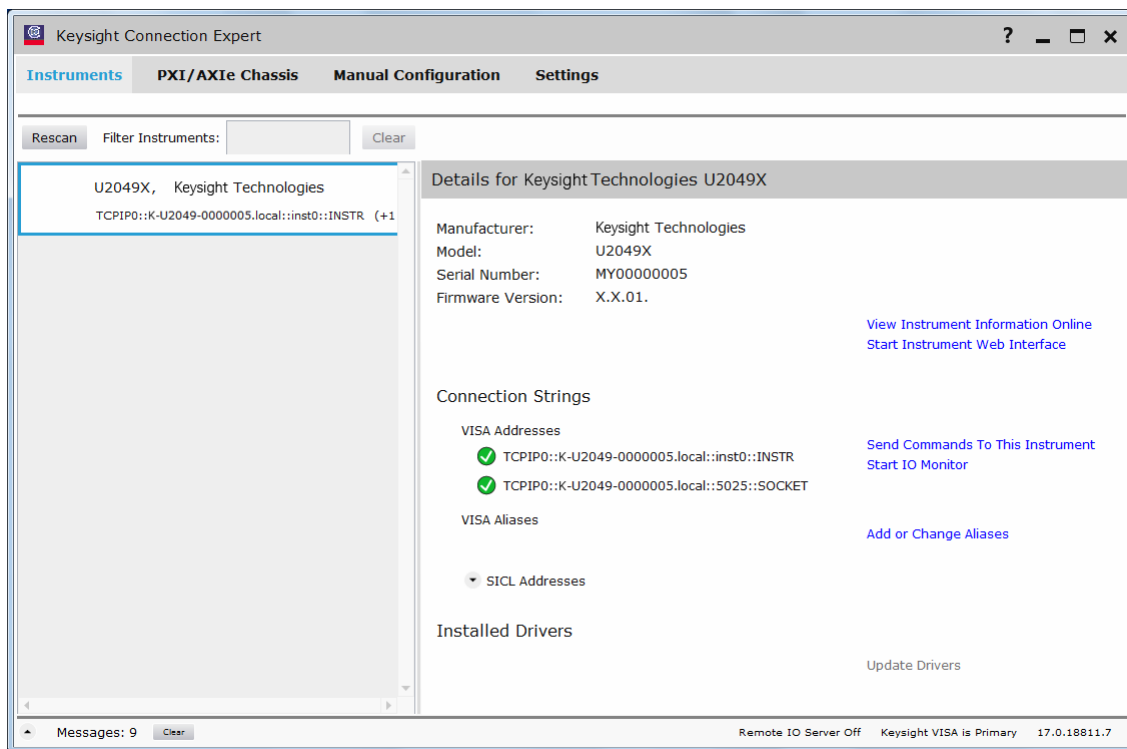

Figure 1-8 Auto-locate a LAN instrument in Keysight Connection Expert via Dynamic IP
- 5 Alternatively, you can auto-locate the U2049XA as shown in **Figure 1-8**. Click **Rescan** to start searching.